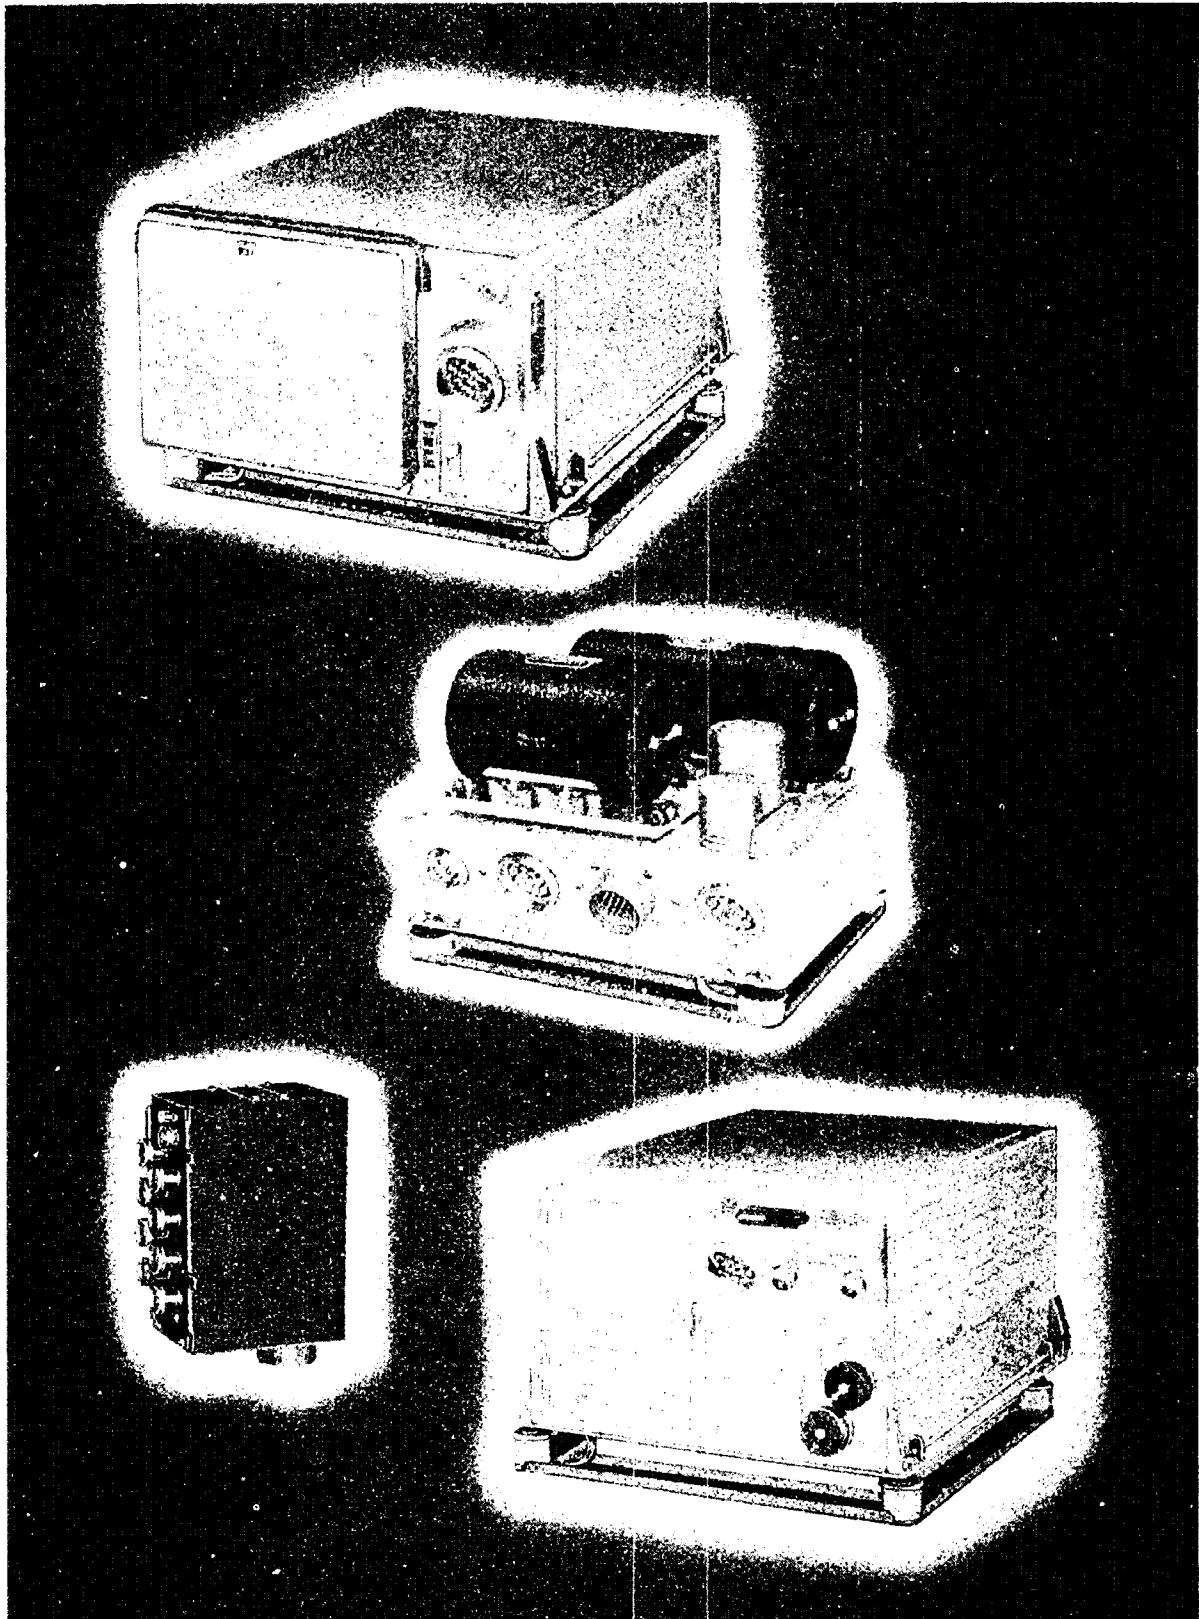

Figure 1. Radio Set AN/ARC-3—Equipment Supplied
a. Radio Set AN/ARC-3 is an airborne receiving and transmitting equipment designed to provide communication from plane to plane, or from plane to ground. (See Fig. 1.)